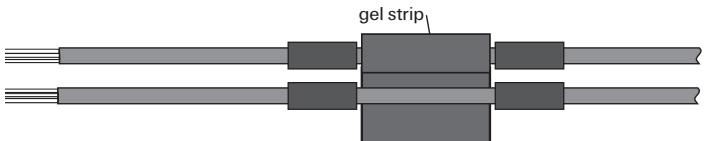

Figure 3
- Wrap one layer of the gel strip around the first cable between the two felt tapes. Do not stretch the gel strip as you wrap it around the cable. Place self-adhering side against cable. (Fig. 3) For a single drop, go to Step 6.